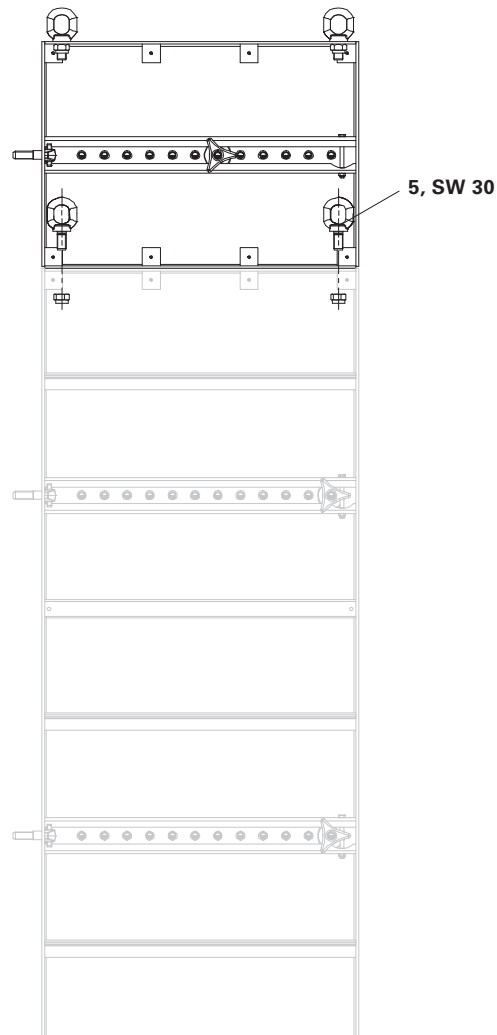

Fig. D2.01
Connect column panels in a horizontal position using the factory-fitted Eye Bolts M20 x 40 (5). (Fig. D2.01)